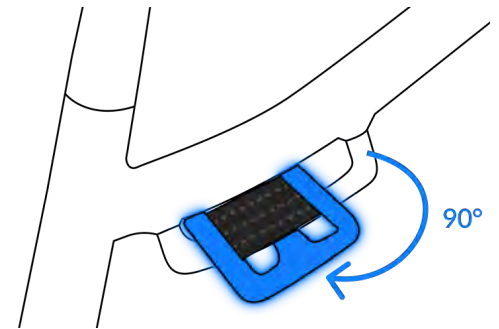

FIGURE 1.0
1. To remove top of harness, pull pass-through buckle, and angle so it is perpendicular to the frame so that it slides through the hoop (Figure 1.0), repeat this for both top buckles and the top of the harness will be released.